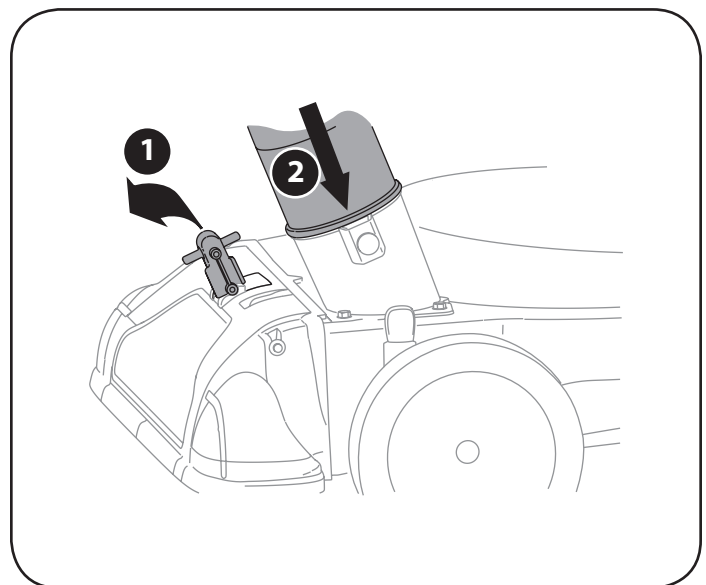

Figure 15
1. Place nozzle/hose vac lever in the bottom position on the nozzle to redirect vacuum to the hose assembly. See Figure 15.